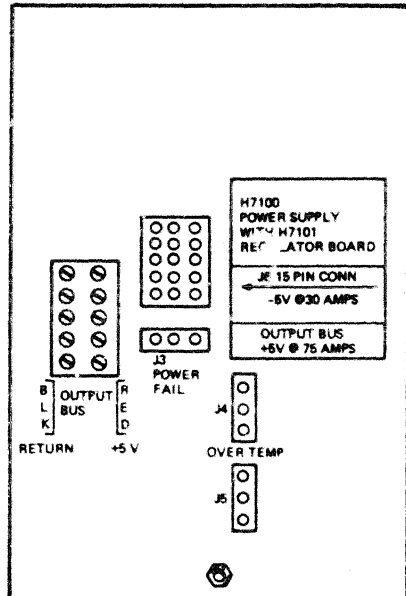

Figure 2-8 H7100 Power Supply (Rear View)
4. Perform the following cable connections at the back of the power supply (Figure 2-8).